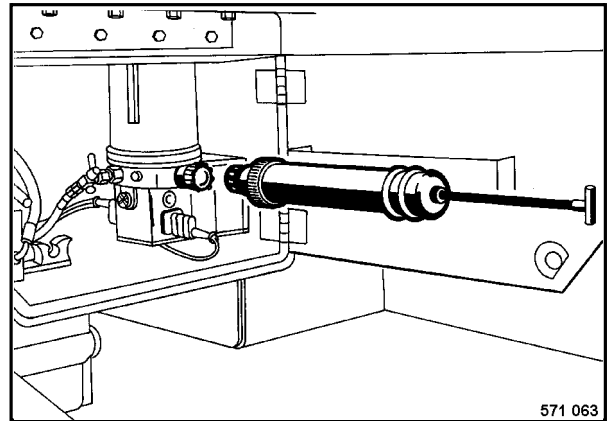

Fig. 16
- Unscrew the covering cap from the central lubrication system and unscrew the plug from the manual grease gun (Fig. 16).